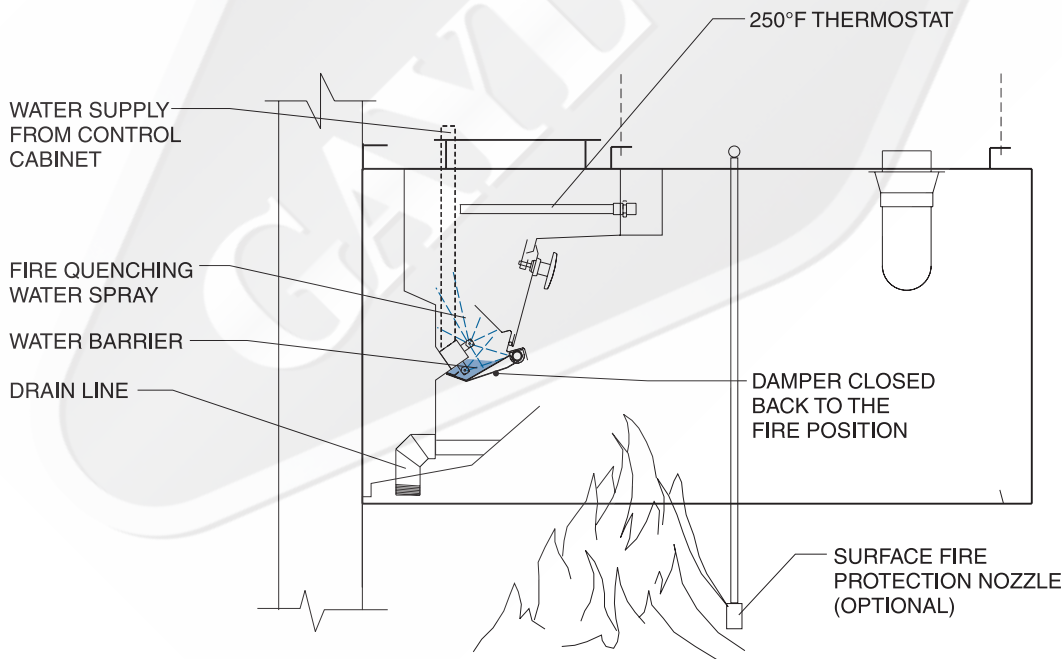

FIG. 4
1. The damper begins closing back to the fire position, position 3 as shown in Fig.4—stopping the combustion-supporting, natural draft through the ventilator and creating a fire barrier to contain the fire in the kitchen. (N/A on CG3-FDT)